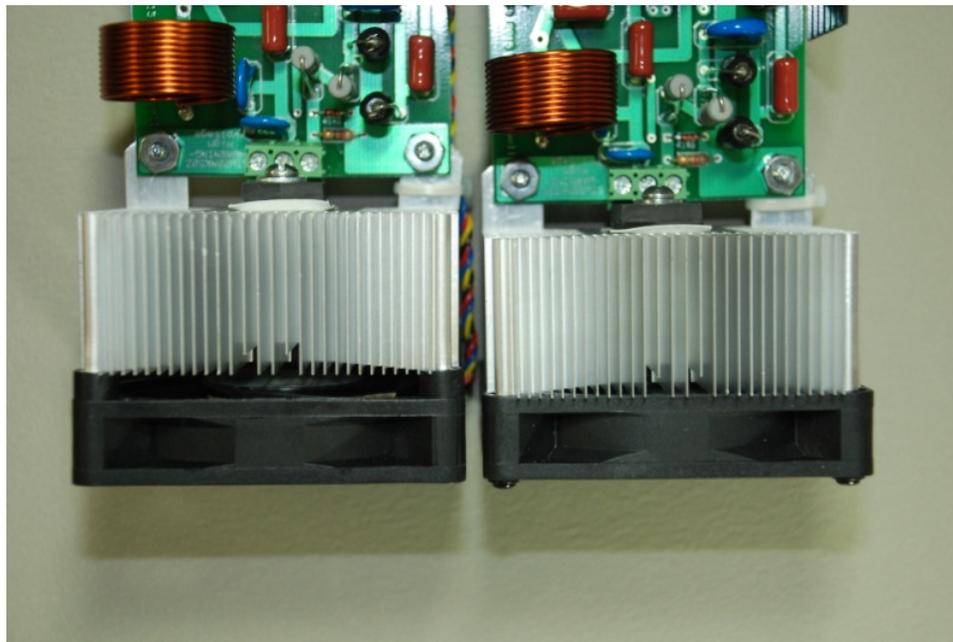

Figure 9.
- 23) The cooling fan wires will have either two or four wires. The four wire colors are **red**, **black**, **yellow** and **blue**. If there are only two wires, go to Step (25).
25) Look at the back of the cooling fan that was mounted against the heat sink. (**See Figure 9, LEFT.**) If the back side of the fan has four corner standoffs that space the fan slightly away from the heat sink, then cut away the standoffs to make the back of the fan smooth. If this is not done, the mounting screws will be too short to reinstall the fan on the heat sink.